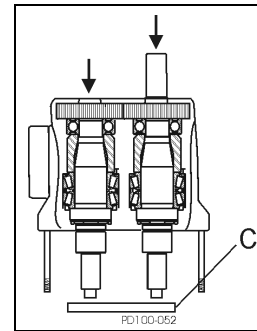

**Figure 41 - Remove Bearing Retainers**
3. Remove front bearing retainer bolts (Figure 41, item 33B) and pull off bearing retainers (item 32). (Stuck retainers will press out when shaft is removed.)